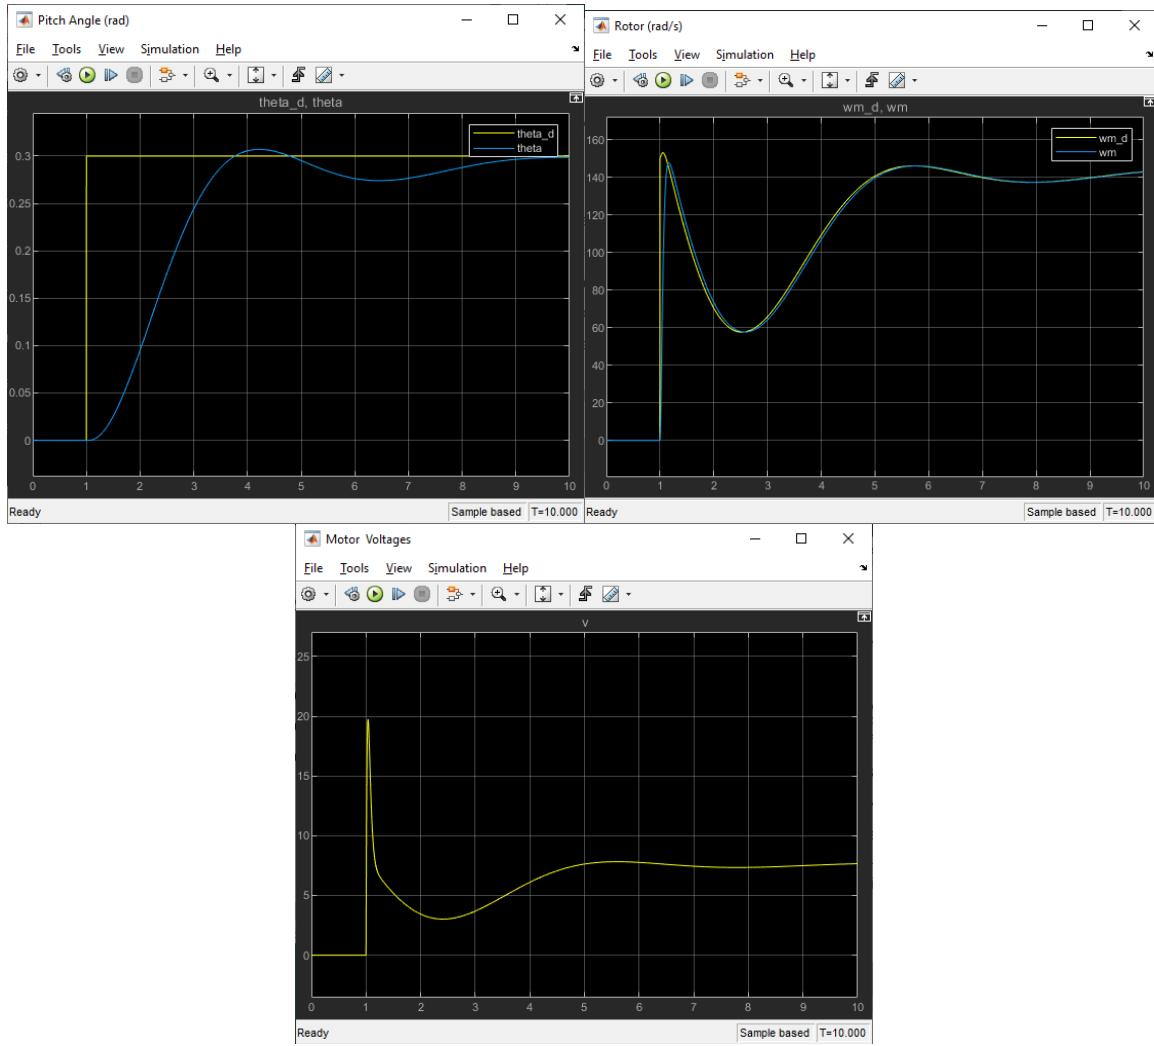

Figure 2 – Sample response from the Aero 2 simulation model
5. Run the `s_aero2_pid.slx` Simulink model to simulate the closed-loop response of the PID control. You should get a response similar to the scope shown in Figure 2.